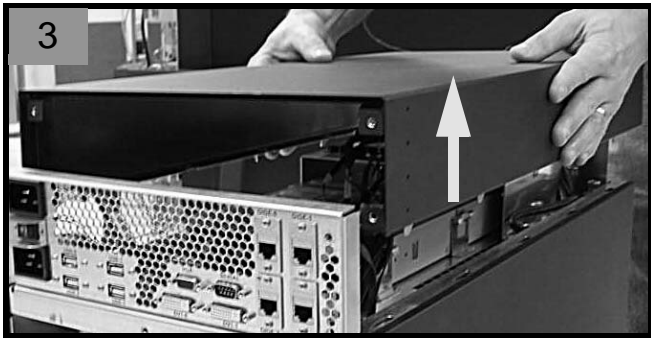

Figure 1-20 Removing the Top Cover
3. Access the top of the enclosure (refer to Figure 1-20 on page 50):